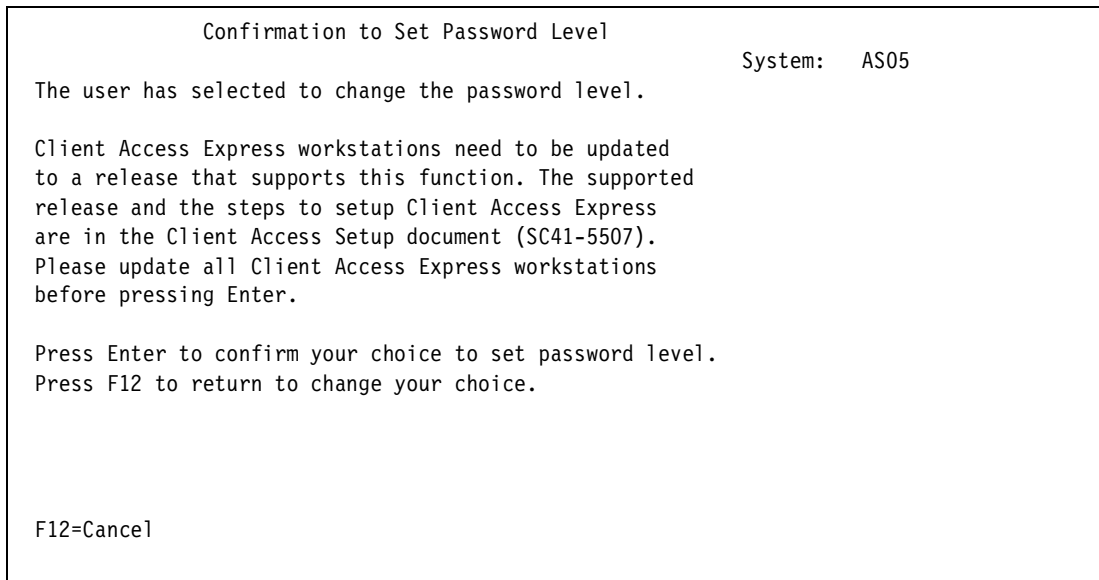

Figure 8-29 Confirmation to Set Password Level display
5. Select option 6 (Password level). A display like the example in Figure 8-29 should appear.